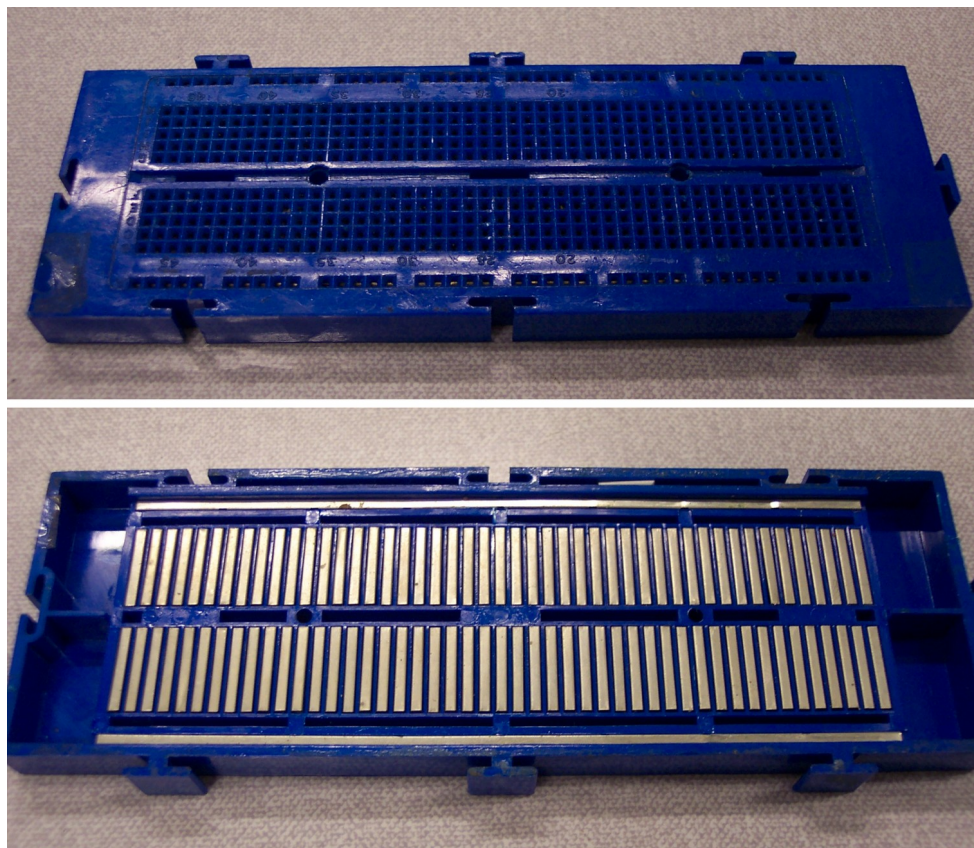
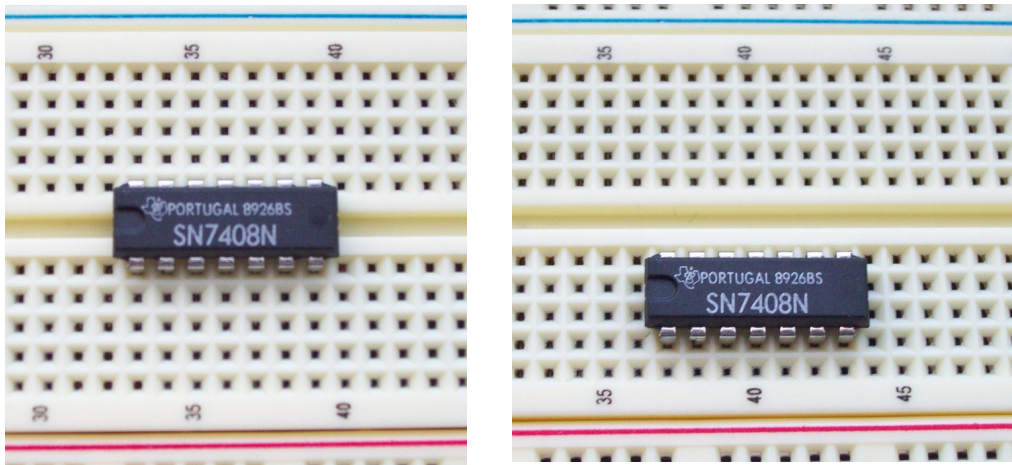

Figure 1: Prototype or bread board, top (top), bottom (bottom) :)
Figure 2: Placing an IC into the prototype board, correct (left), wrong (right)
The aim of this lab is to demonstrate how logic circuits can be implemented using a prototype board (also called a bread board), an example is shown in figure 1. This board contains a number of sockets linked to internal wires allowing you to construct simple logic circuits. At the end of this practical you will understand:
Breadboards contain a 0.1" matrix of holes which are designed to allow integrated circuits (IC) and other components to be easily connected. The electrical connections between these components are made via internal metal tracks embedded in this board, as shown in the bottom frame of figure 1. By convention the top and bottom horizontal tracks are used for the power supply rails, the central vertical tracks for components.
ICs should be placed along the middle gap as shown in figure 2 i.e. each row of pins is connected to a different bank of vertical metal tracks as shown in figure 1. Do not